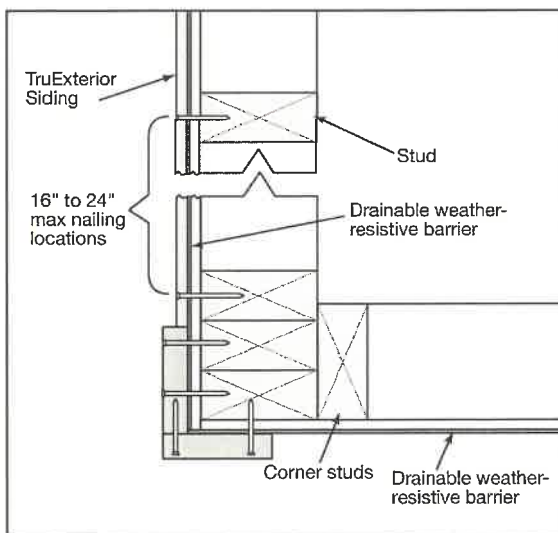

Fig. 10a
- Ensure that the nails penetrate the framing and the nails of the longer trim piece penetrate the shorter trim piece at the corner **(Fig. 10a)**